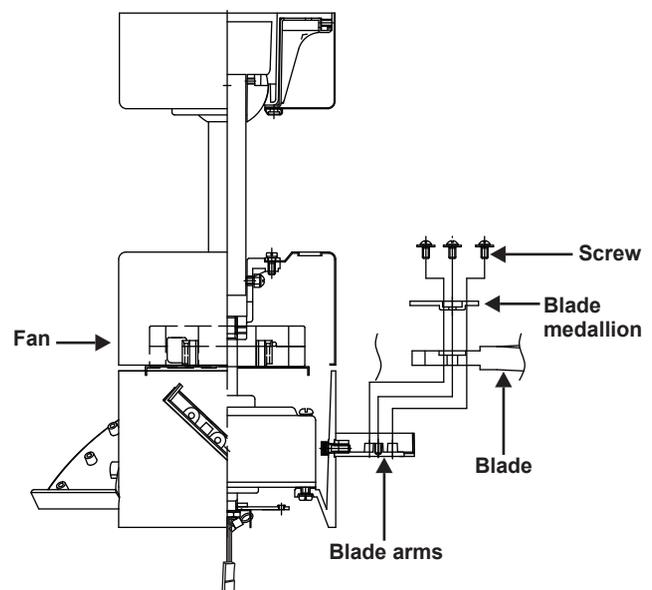

Figure 13
1. Fasten the blades to the blade arms and blade medallion using the blade attachment screws provided. Start a screw into the blade medallion, but do not tighten. (Fig. 13)